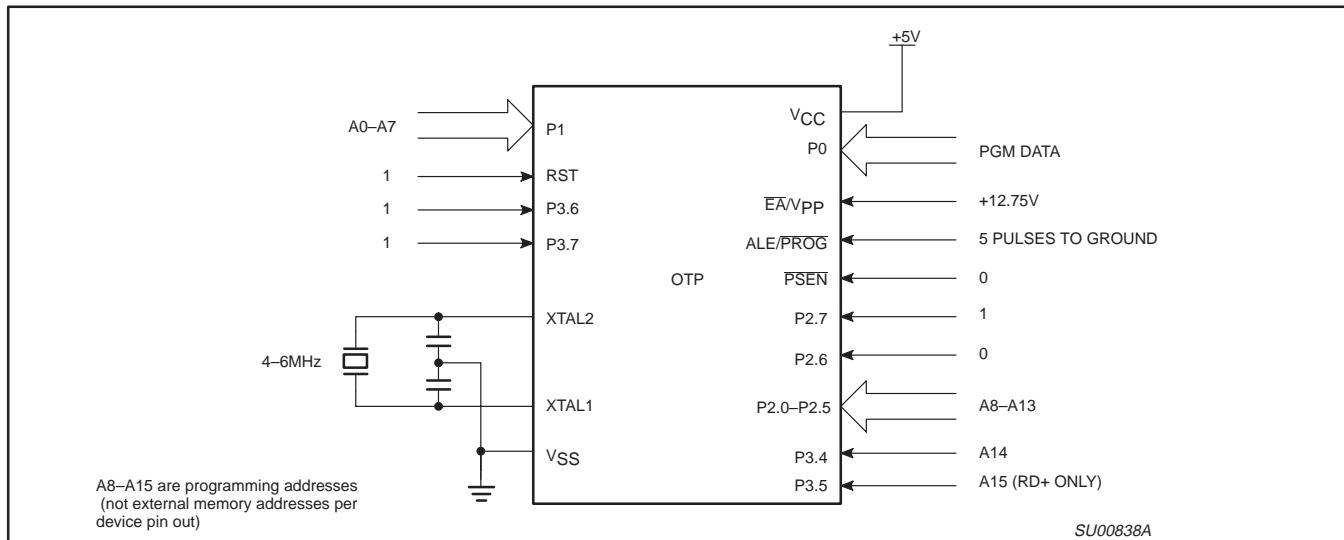
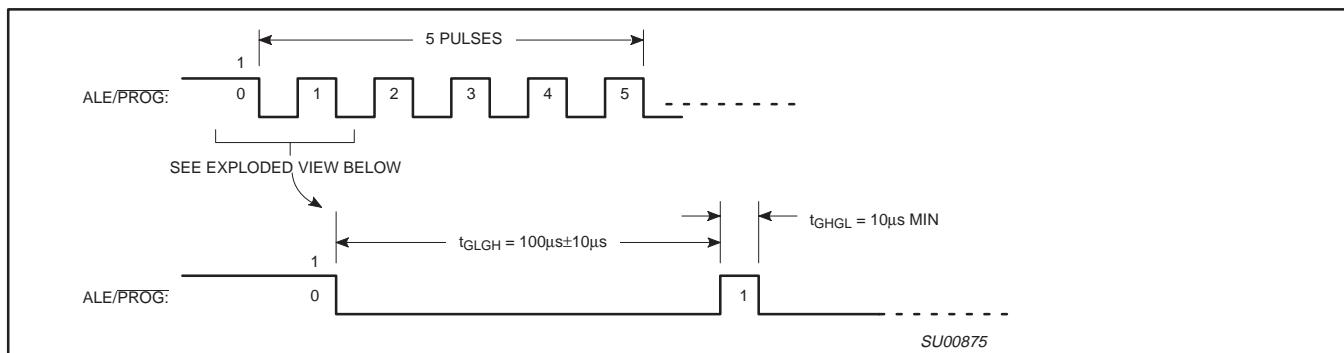
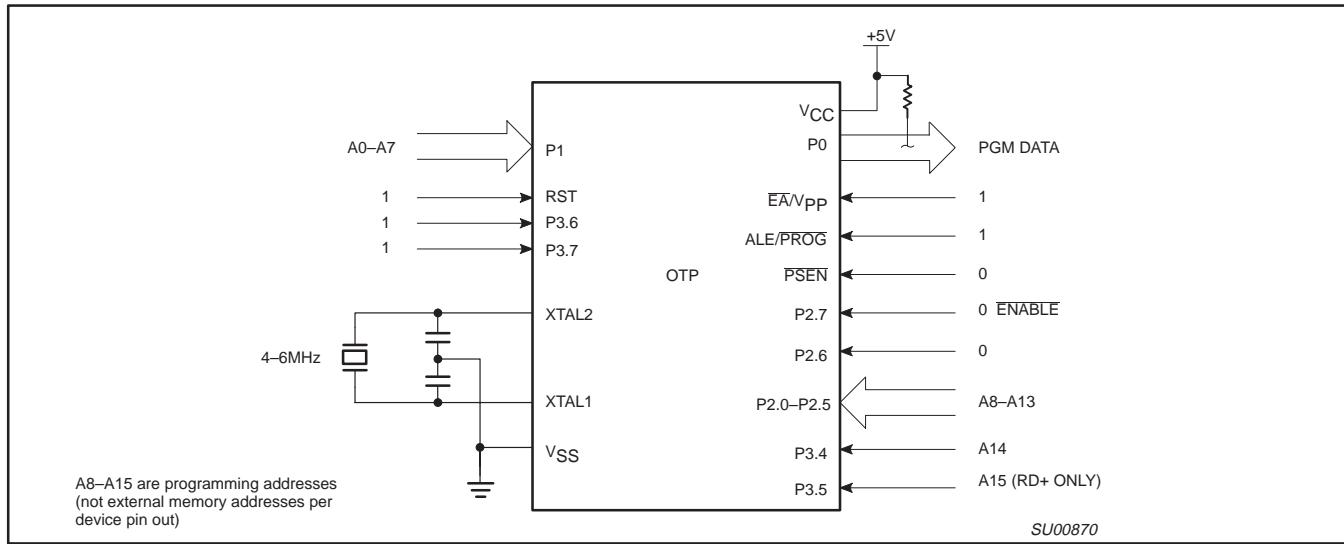

Figure 41. Programming Configuration
Figure 42. PROG Waveform
Figure 43. Program Verification
Table 9 shows the logic levels for reading the signature byte, and for programming the program memory, the encryption table, and the security bits. The circuit configuration and waveforms for quick-pulse programming are shown in Figures 41 and 42. Figure 43 shows the circuit configuration for normal program memory verification.
The setup for microcontroller quick-pulse programming is shown in Figure 41. Note that the device is running with a 4 to 6MHz oscillator. The reason the oscillator needs to be running is that the device is executing internal address and program data transfers.
The address of the EPROM location to be programmed is applied to ports 1 and 2, as shown in Figure 41. The code byte to be programmed into that location is applied to port 0. RST,  $\bar{PSEN}$  and pins of ports 2 and 3 specified in Table 9 are held at the 'Program Code Data' levels indicated in Table 9. The ALE/PROG is pulsed low 5 times as shown in Figure 42.
address of the program memory locations to be read is applied to ports 1 and 2 as shown in Figure 43. The other pins are held at the 'Verify Code Data' levels indicated in Table 9. The contents of the address location will be emitted on port 0. External pull-ups are required on port 0 for this operation.
- \* FOR PROGRAMMING CONFIGURATION SEE FIGURE 41.
FOR VERIFICATION CONDITIONS SEE FIGURE 43.